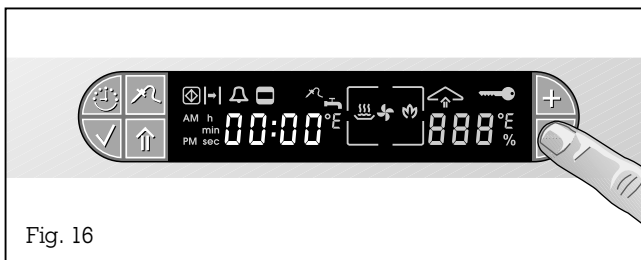

Fig. 16
- Press the - key while the appliance is on (Fig. 16).